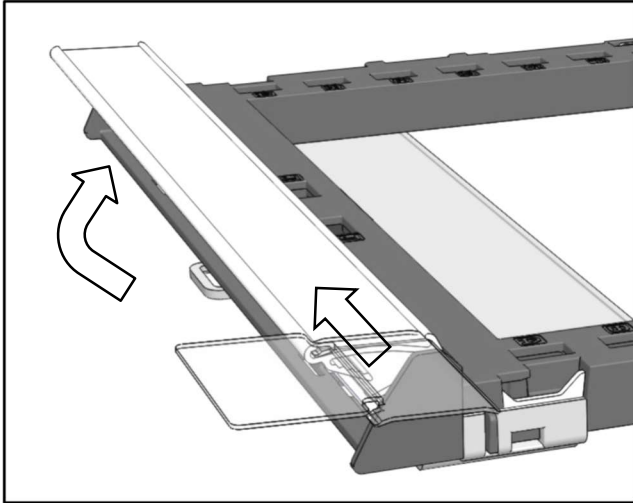

Figure 28
2. Slide the Price Tag Holder into the graphic channel (See Figure 28).